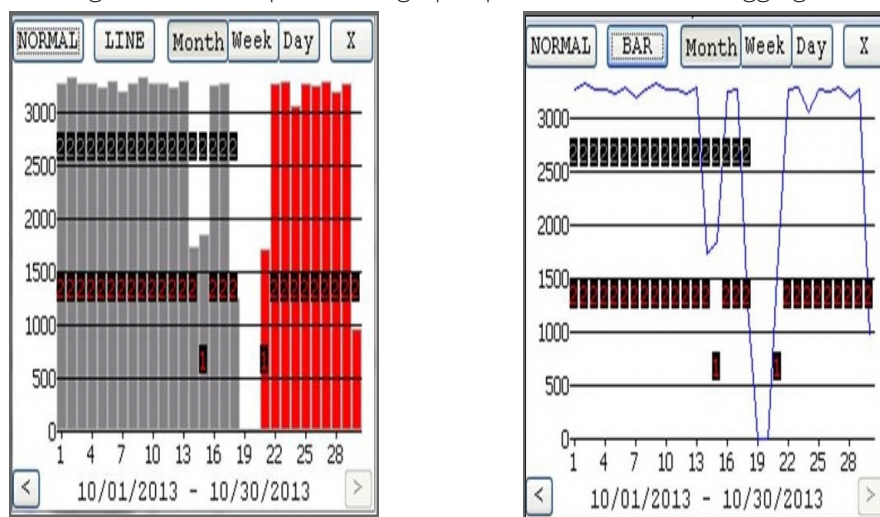

Figure 27 – Examples of Data Logging Graphs
- Click **GRAPH** to display the data in a graph. See examples of graphs in Figure 27 on page 26.